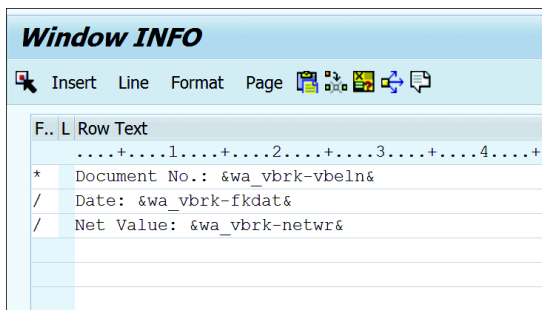

Figure 18.15 Printing Document Info
- Now, you need to print the billing document number, billing date, and net value in the info window. To do so, open the SAP script editor for the window and maintain the text as shown in Figure 18.15. Here, you're printing the field label and the field name that contains the data. In the driver program, you have to ensure that the `wa_vbrk` work area contains the data before this window is processed by the composer. (You'll see how to activate the composer and write the data when we enhance the driver program from Listing 18.1.) Note the different formats used for each line in the FORMAT column. Enter "*" to use the default paragraph format and "/" to print on a new line.